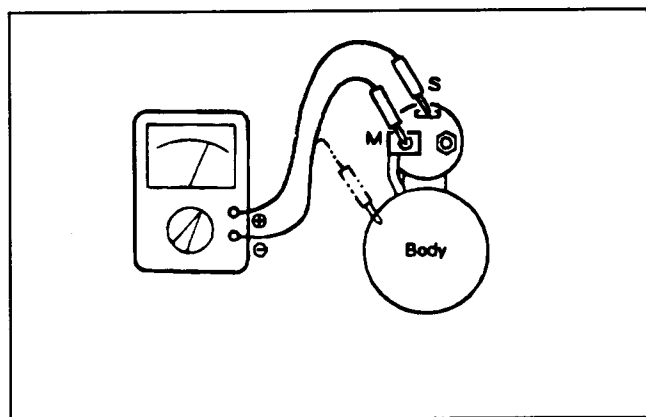

Figure 46
10. Check the magnetic switch for continuity between terminals "S" and "M" and between terminals "S" and body (Fig. 46). If there is continuity (or zero ohm is indicated), replace the magnetic switch.